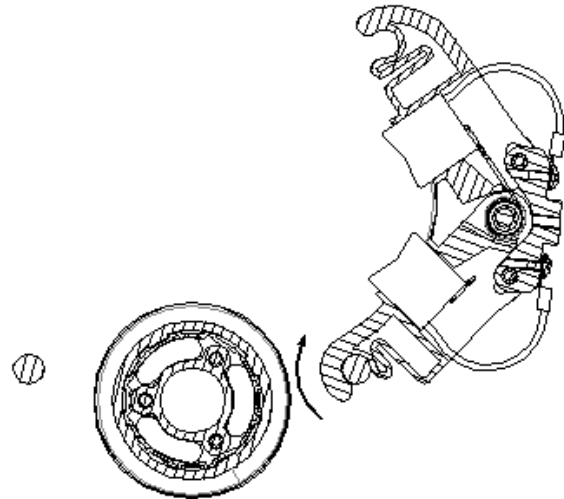

Fig. 20
-Rotate the brush holder as shown Fig. 20.